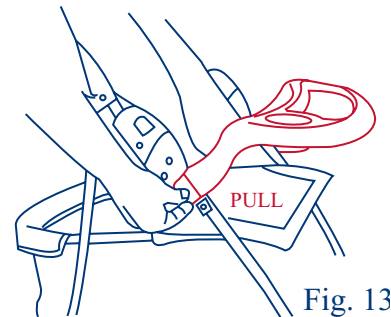

Fig. 13
- * To attach the front child tray, snap each side latch onto the front frame tube just below the fold joint. To remove the front child tray, pull outward on the side latch on the tray. Please see figure 13.
- * Pull outward on the tray latches to release. Please see figure 13.